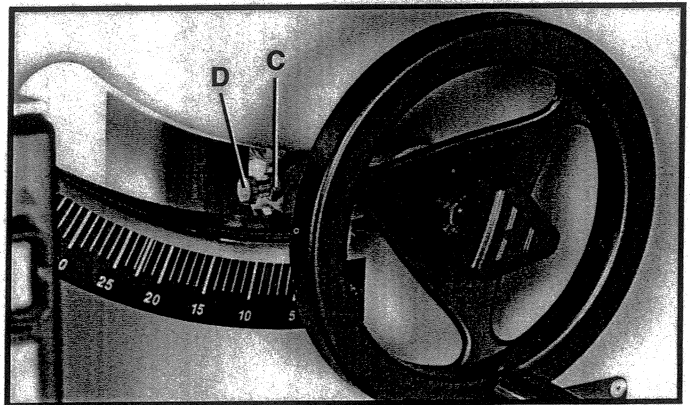

Fig. 66
4. Turn the blade tilting handwheel counterclockwise as far as it will go. Using a square, check to see if the blade is at 45 degrees to the table. If an adjustment is necessary, turn the blade tilting handwheel clockwise until the adjusting screw (D) Fig. 66, and locknut (C) are in view, in the opening in the front of the saw cabinet, as shown. Loosen locknut (C) and tighten or loosen adjusting screw (D) until head of screw (D) contacts casting on front trunnion when the blade is at 45 degrees to the table. Then tighten locknut (C).